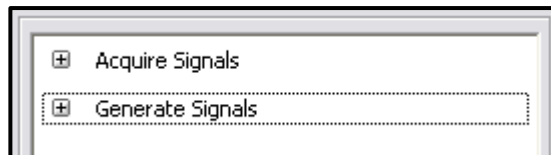

Figure 69. Choose Acquire or Generate signals.
4. In the following options, depending on the channel direction, choose either Acquire signals or Generate signals [Figure 69]. In this example we follow to generate output signals.